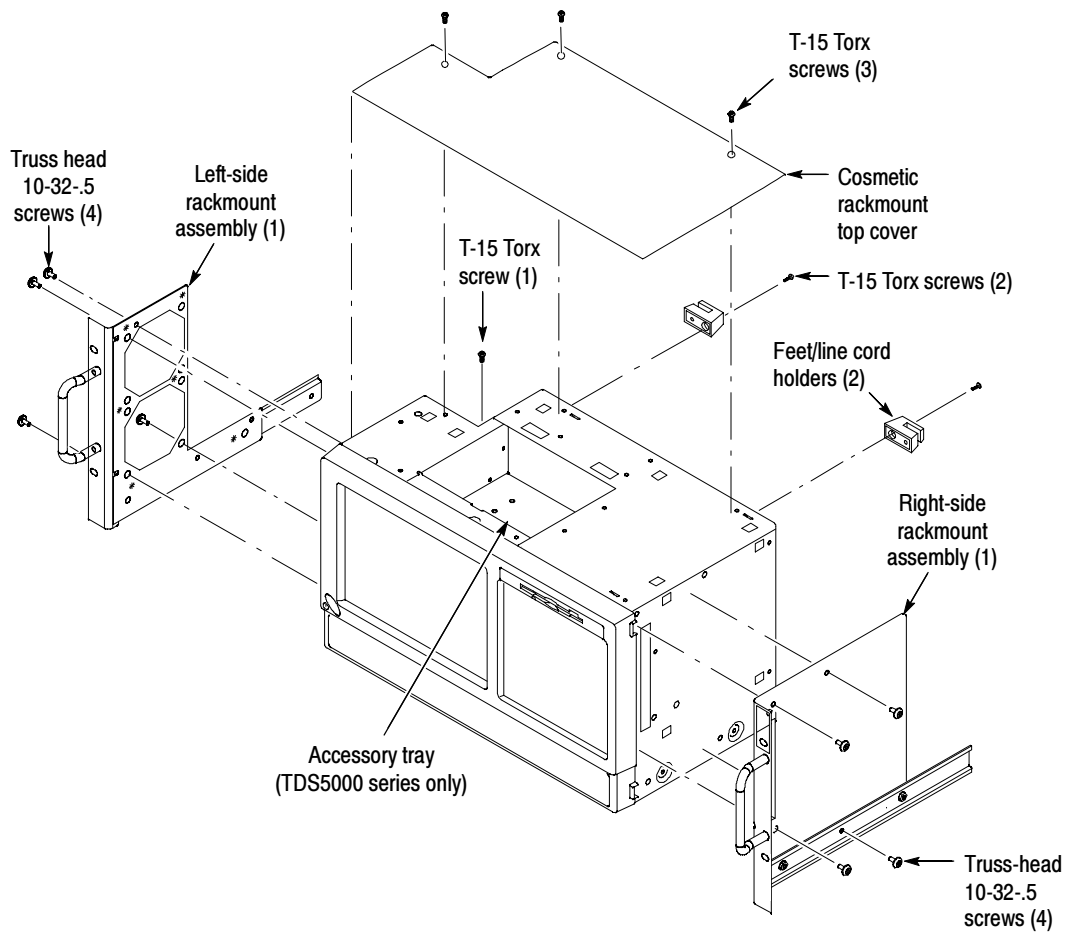

Figure 8: Installation of rackmount assemblies
9. Remove three T-15 Torx screws from the top of the instrument, which enables the metal cosmetic rackmount top cover to be installed. Refer to Figure 8 on page 15.
4. Install the right-side rackmount panel assembly to the right side of the instrument. Secure it by using the four 10-32 Truss-head Phillips screws, applying 28 inch-lbs of torque. Refer to Figure 8, on page 15.
7. If desired, install the cosmetic top cover using three Torx screws from the instrument. See Figure 8, on page 15.